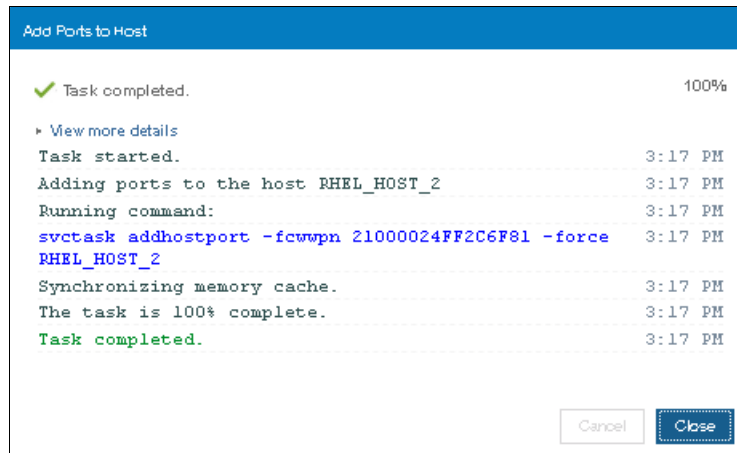

Figure 8-35 Add Ports to Host task completed
6. Click **Add Ports to List**. A task completion window will be shown as in Figure 8-35.